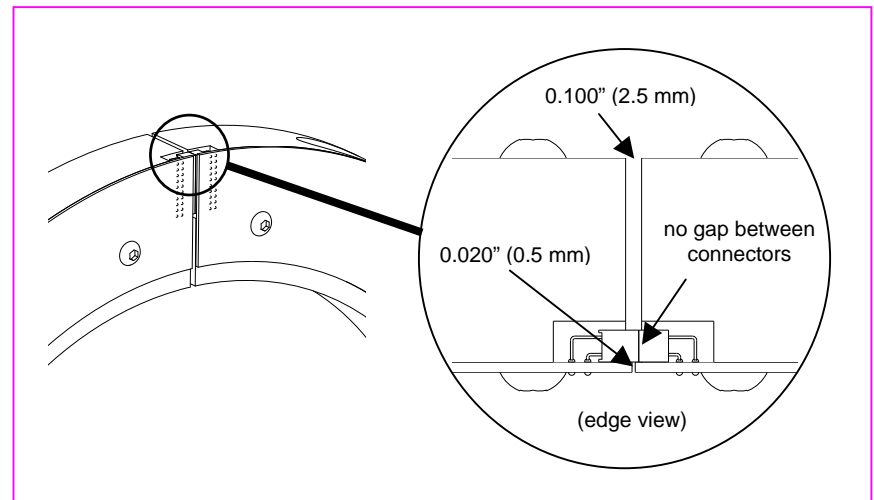
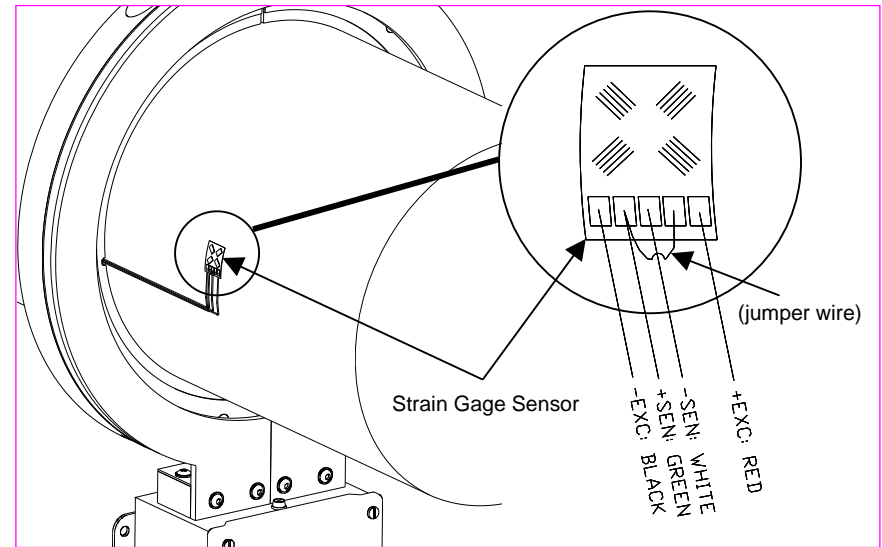

Figure 9 - Correct Collar Gap Spacing
Figure 10 - Strain Gage Connections
2. Remove large bolts from Rotating Collar if necessary to separate parts. Apply antiseize compound (provided) to the bolt threads. Reassemble collar on shaft adjacent to gage with ribbon cable from collar leading towards gage. (Refer to Figure 1 on page 3 or Figure 10 on page 19.) Make certain that connectors are properly aligned. Install opposing collar bolts from opposite directions to maintain balance. Tighten alternate bolts evenly until gap between collar halves is .100" (2.5mm) at all junctions. (See Figure 9 below.)
4. Securely mount Master Control Unit to machine or mounting bracket (not provided) so that the back surface of the Collar aligns with the back edge of the Mounting Block. (Refer to Figure 1 on page 3 or Figure 10 on page 19.) Additional support for the Power Coil may be required depending on the size and application; mounting tabs are incorporated into the larger Power Coil designs and brackets are included.
- Trim ribbon cable from Rotating Collar to length and discard the star bridge. Connect (solder) cable to sensor. (Refer to Figure 10 below.) Note: Keep ribbon cable as short as practical (6 to 8 inches typical) to avoid unwanted electrical noise. For long cable runs consider using shielded cable. Secure ribbon cable to shaft using adhesive or fiberglass tape or more permanent methods as appropriate.